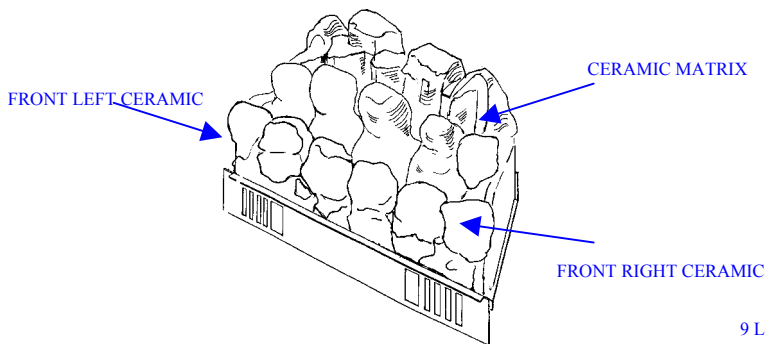

Fig. 11 Assembling the ceramic blocks
5. Install the ceramics and coals. The ceramic components are fragile and should be handled with care. Refer to Figs. 11 and 12 for positioning of ceramic fibre blocks and coals.